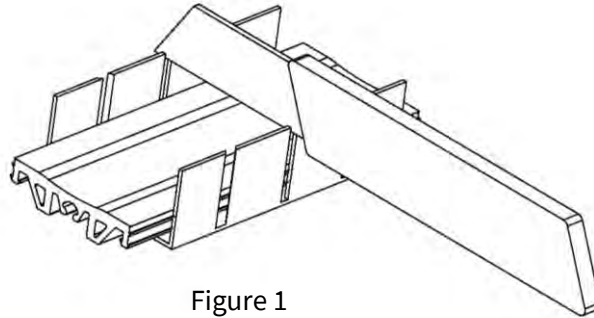

Figure 1
1. Position aluminum extrusions in the expansion joint as shown and attach with appropriate fasteners (by others) for the substrate. 18" on center (stagger seams, as necessary). **See Figure 1**
1. Position aluminum extrusions in the expansion joint as shown and attach with appropriate fasteners (by others) for the substrate. 18" on center. Make sure the corner extrusion is installed so the extrusions channels are level with each other (stagger seams, as necessary). **See Figure 1.**
1. Determine the angle needed and cut ends of seal in a miter box with a sharp, non-serrated knife. **See Figure 1**